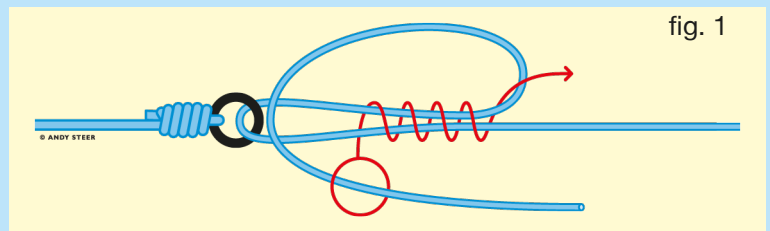

fig. 1
Run line through eye of hook and double back parallel to the standing line. Make a loop by laying tag end over the doubled line. (fig. 1)
- The number of stitches required to generate self-clamping is dependent on the line diameter and the distance between the stitches. The thinner the line, the more stitches must be made (see our splicing table), and the closer they must be. Position the stitches as close as possible to each other (see fig. 1).